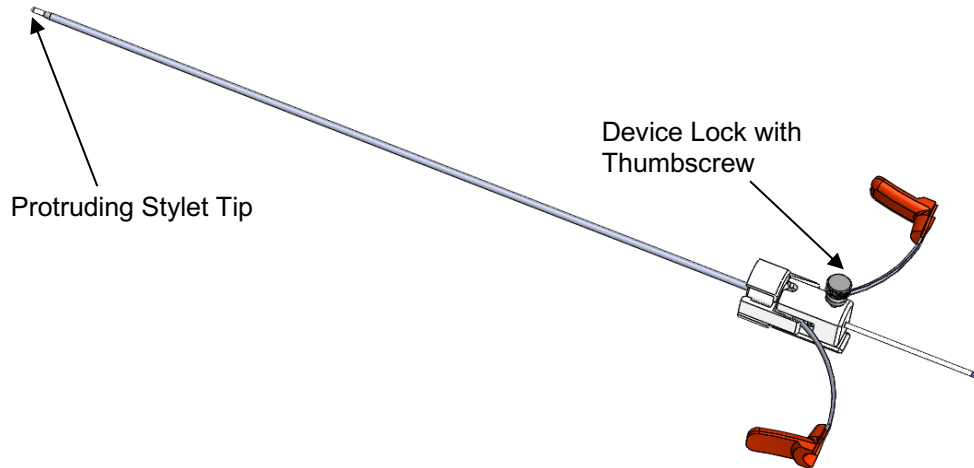

Figure 36: Dock and Lock Assembled to Stylet and Sheath
16. Insert the Stylet into the Sheath. The distal end of the Stylet should protrude between one (1) and five (5) mm from the end of the Sheath. If it is not protruding, pull on both ends of the hub, peel the Sheath until the distal end of the Stylet protrudes between one (1) and five (5) mm. A slight resistance should be felt.
17. Insert the Stylet into Dock until Device Lock mates and snap locks to Dock. **See Figure 36.**